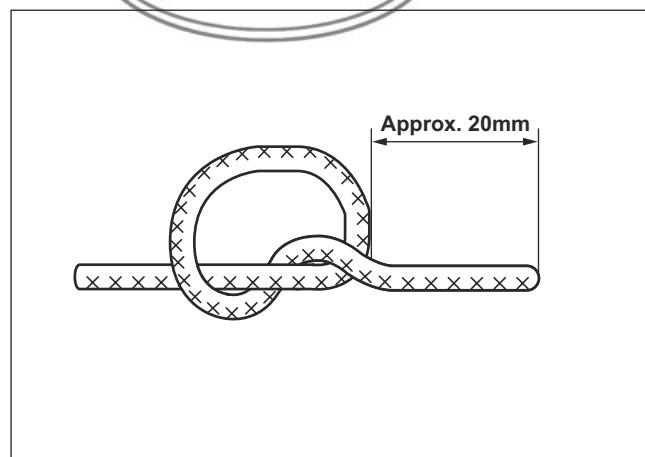

Fig.14-8
- 2 Tie a knot in the rope end . (Fig. 14-8)